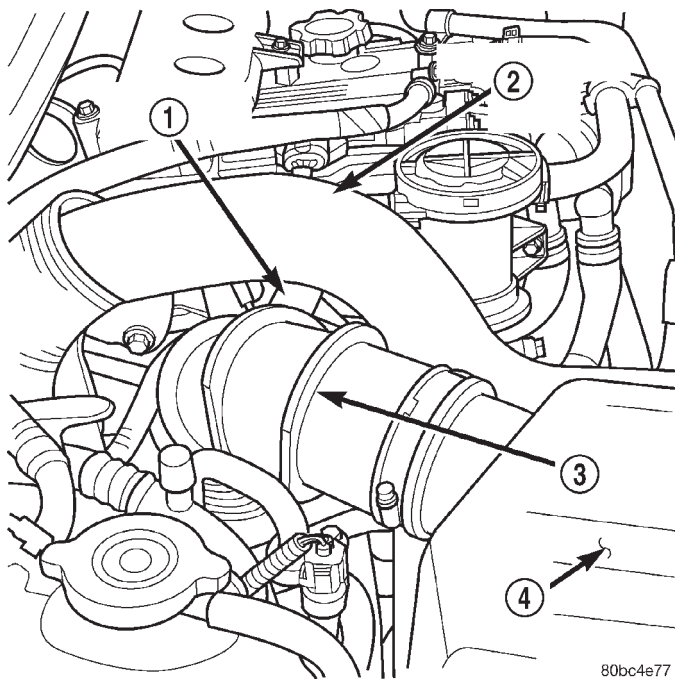

Fig. 10 Fresh Air Intake Hose
(1) Disconnect the negative battery cable.
(2) Recover the refrigerant system. Refer to Service Procedures in this group for the procedure.
(3) Remove the refrigerant line retaining fastener from the evaporator inlet tube fitting. Remove the line and cap the evaporator inlet tube to prevent contamination of the system.
(4) Remove the fresh air intake hose from the vehicle (Fig. 10).